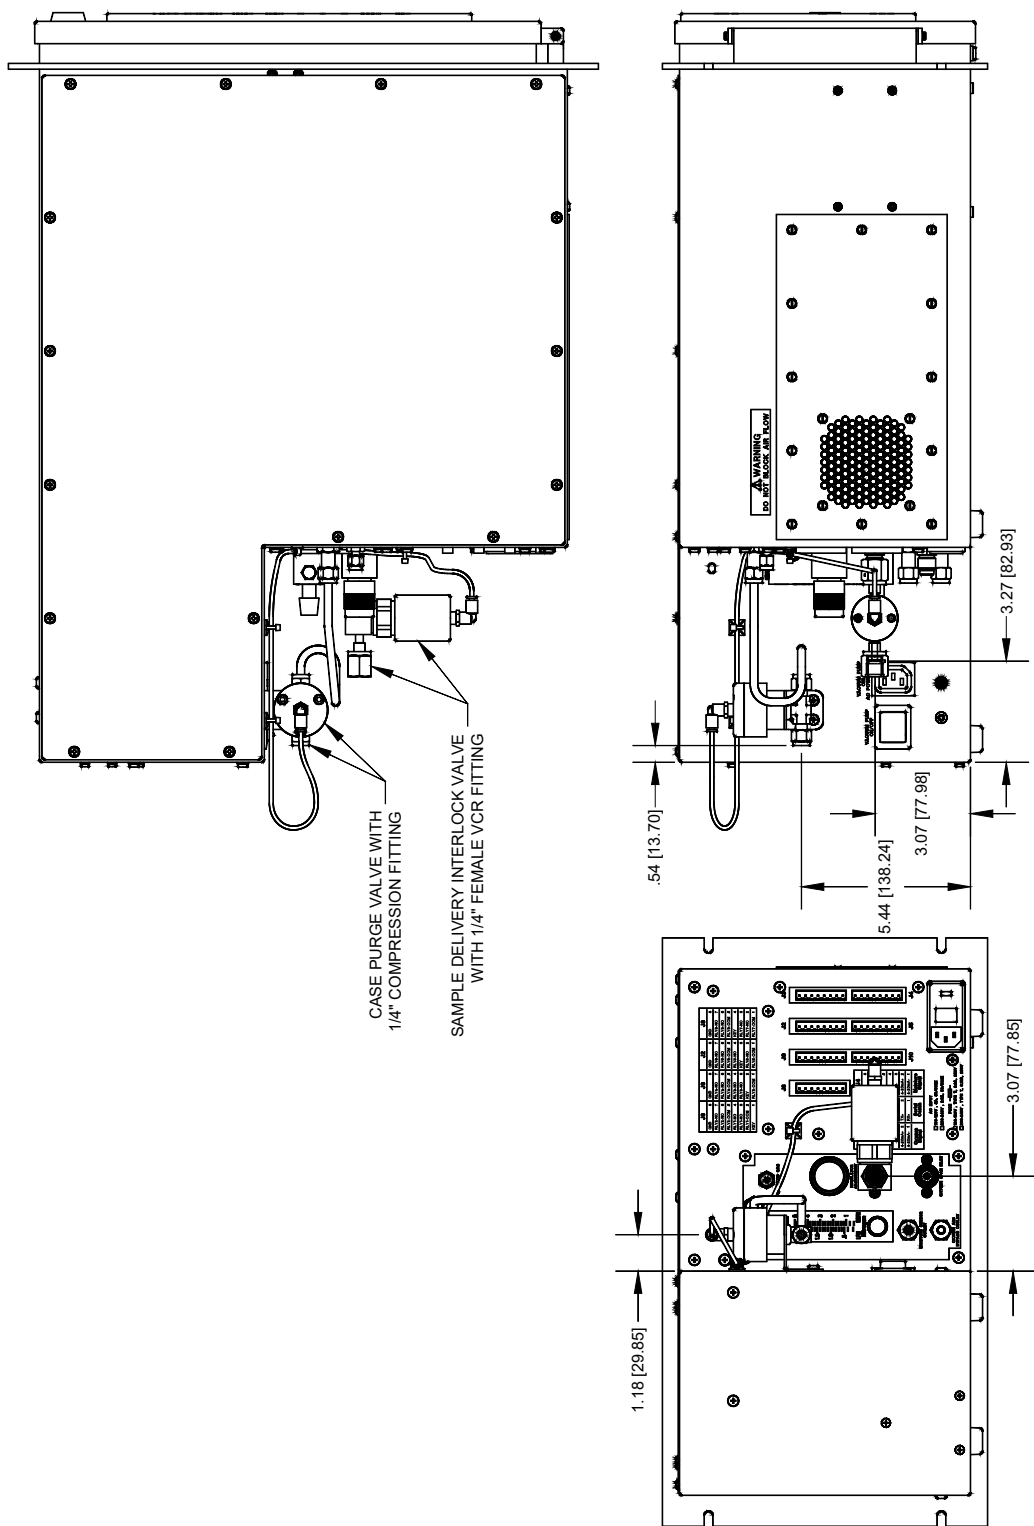

Figure 98 Optional Hydrogen System Safety System
- If equipped with a vacuum pump, an enclosure equipped with a nitrogen case purge is provided to maintain a safe condition. In addition, an interlock is provided to detect and react to loss of Nitrogen purge flow. Refer to **Figure 98**.